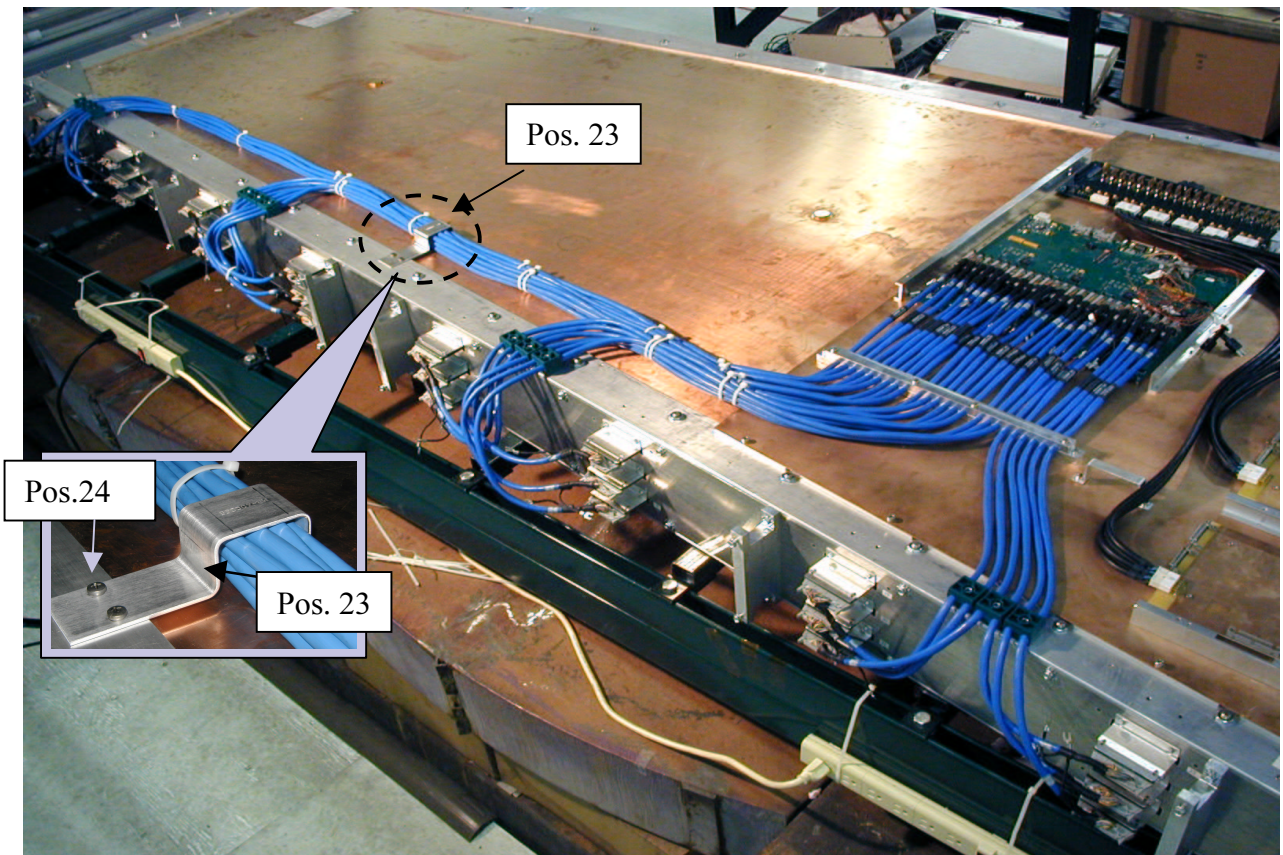

Fig.8. ME234/2 cable harness assembled on the ME234/2 chamber
- Fix the harness with special bracket, see Fig. 8.
- See Fig.8, Fig.8a, Fig.8b, and Fig.8c for reference.
The cable ground wire terminal (cable shield) must be connected to the chamber ground. Use one of the M4 screws on the bracket (Fig.8).